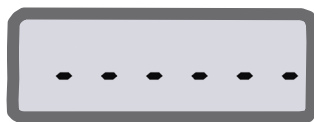
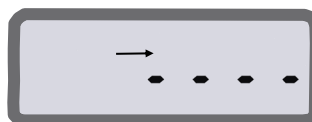

Fig.1A
Fig.1B
- **Zero Sequence:** When you press the **Zero / ABS** button the display will show a dashed line as seen in (Fig.1A). The dashed line will incrementally disappear from left to right (Fig.1B); Make sure not to move the thimble during this time. This is a visual reminder to wait for the tool to zero out. This will happen each time the tool is zeroed, and takes less than a second.